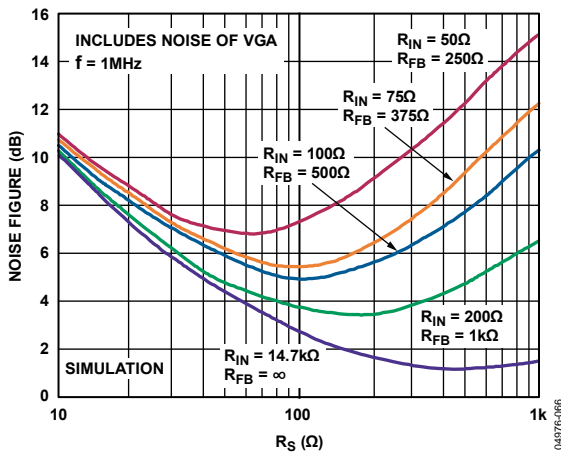

Figure 56. Simulated Noise Figure vs.  $R_S$  for Various Fixed Values of  $R_{IN}$ , Actively Matched
Figure 56 shows the simulated noise figure (NF) vs. source resistance, and various values of preamplifier  $R_{IN}$  from 50  $\Omega$  to 14.7 k $\Omega$ , the value seen looking into the PIPx pins when  $R_{FB} = \infty$ . As shown in the figure, the minimum NF for  $R_{IN} = 50 \Omega$  is slightly less than 7 dB. Note that, for this preamplifier, the NF is optimized for the  $R_{IN}$  from 50  $\Omega$  to 200  $\Omega$ ; for  $R_{FB} = \infty$ , the minimum NF is at approximately 480  $\Omega$ . This optimum noise resistance can also be calculated by dividing the input referred voltage noise by the current noise.